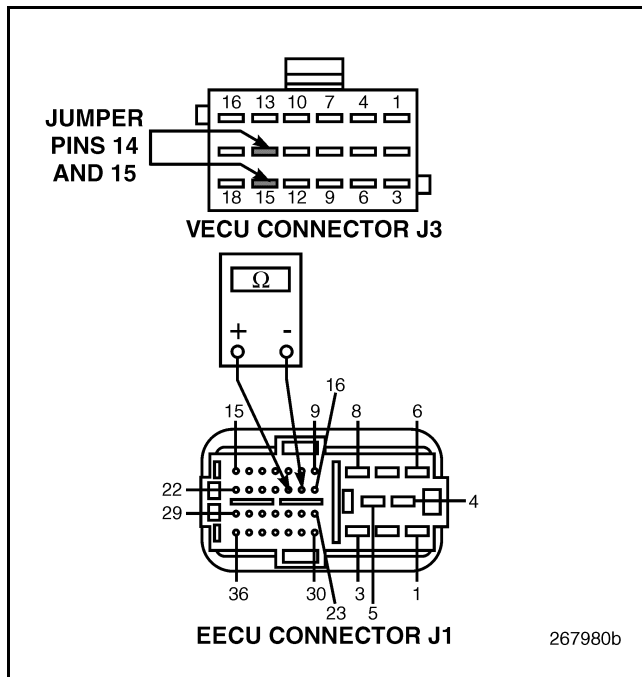

Figure 637
6. Check for continuity between Engine Electronic Control Unit (EECU) connector J1 pin 17 and pin 18 (see Figure 637).